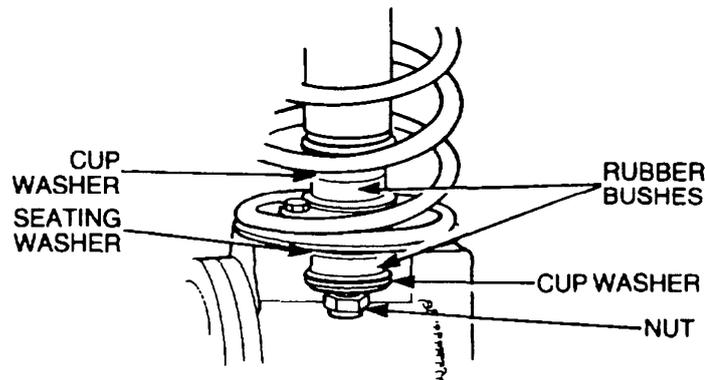

Figure 142 Front Shock Absorber Removal
- e. Remove the nut securing the shock absorber to the axle casing (Figure 142).
- e. Fit a seating washer, rubber bush and cup washer and secure them with the nut (Figure 142). Tighten the lower nut securely.